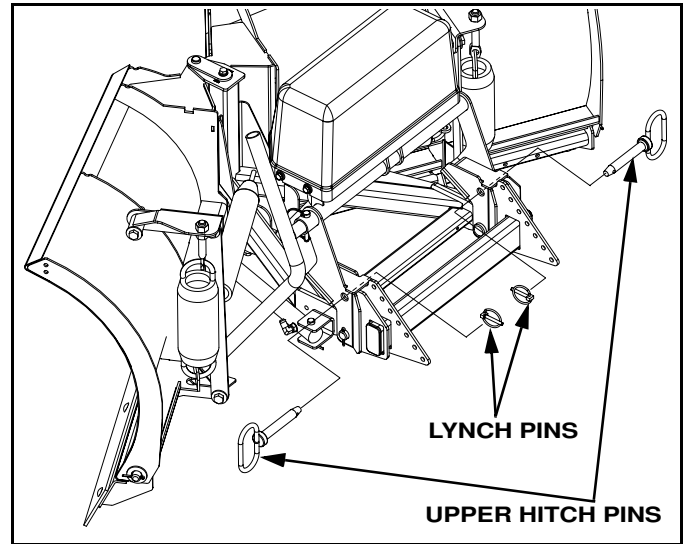

Figure 1-16
5. Remove lynch pins and upper hitch pins. (See Figure 1-16)